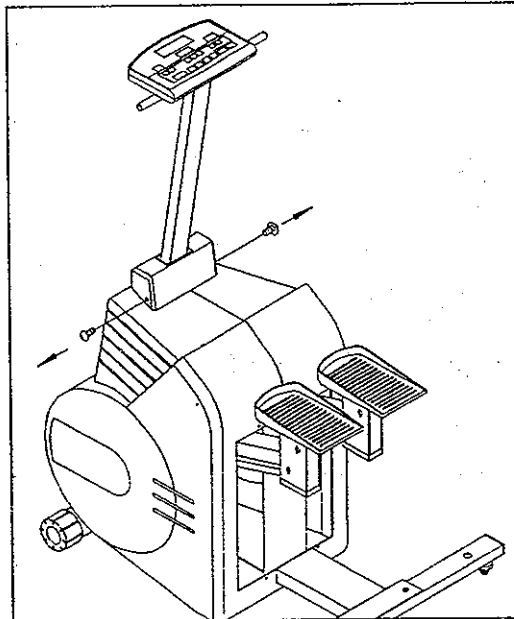

Fig. 2
2. Unscrew the two screws securing the post shroud (see Fig. 2).